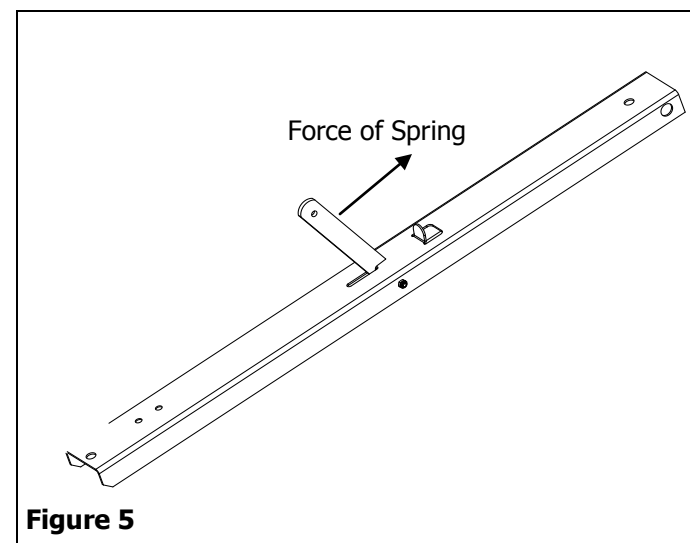

Figure 5
5. If assembled correctly the Latch should be forced toward the back of the Tow Bar by the spring. See Figure 5.